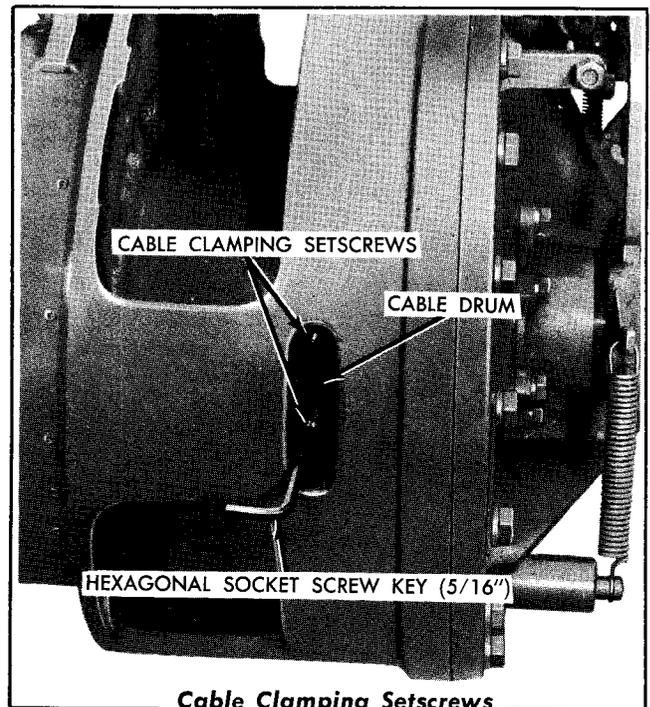

FIG. 12
3. Each cable drum is fitted with a cable groove at the flange end and has a boss with two $\frac{5}{8}$ " socket-head setscrews (Fig. 12) for clamping the end of the cable in groove. Turn the cable drum so that the setscrews are accessible through the access opening in the gear housing, then loosen the two setscrews.